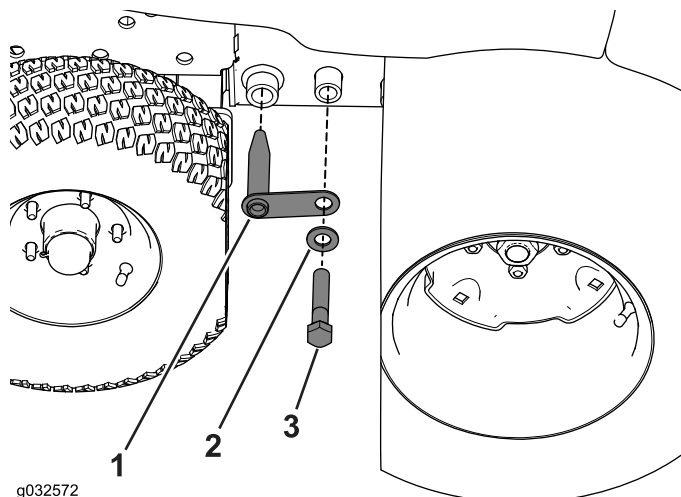

Figure 69
4. Use the coupler link, bolt (3/4 x 4 inches), and washer to secure the winter frame to the machine frame (Figure 69).